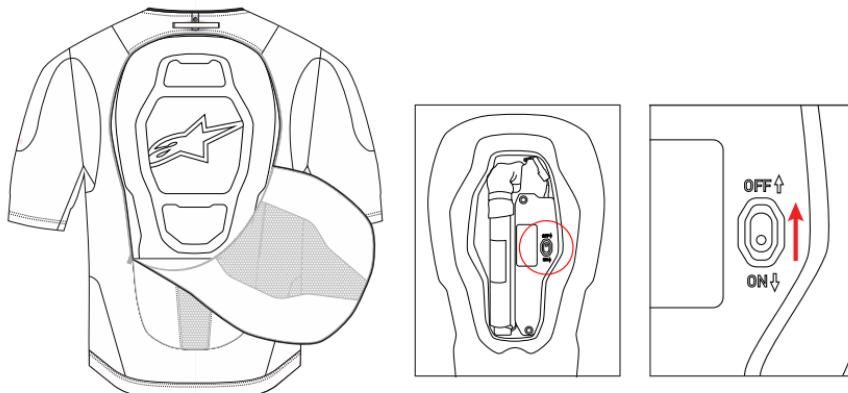

Figure 3: Airbag Control Unit and Shipping Mode Switch
To access the Back Protector, open the zipper located on the back of the System. Once open, the User can easily access the Airbag Control Unit components by opening the back cover by lifting up and detaching the Velcro closure. Once the cover is removed, the User must put the System into Shipping Mode by switching the Shipping Mode Switch (5) to the OFF position, as shown in Figure 3.